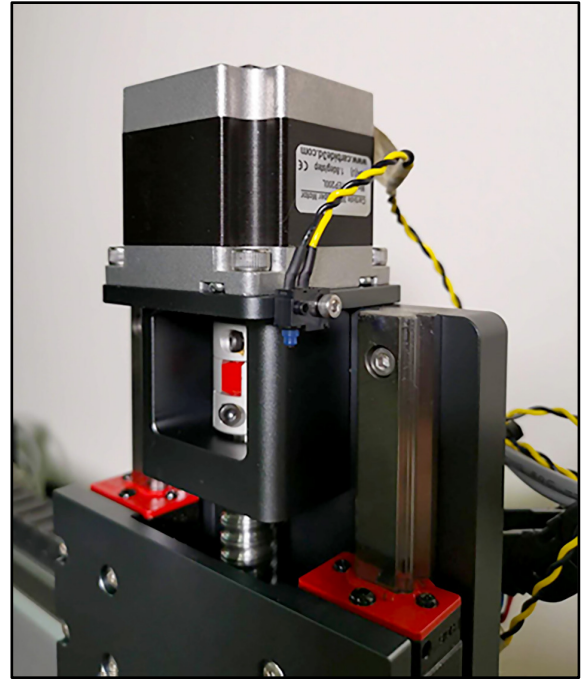

Figure 19
1. Fit your existing z-axis homing switch directly to the outside edge of the Z-motor mounting plate using your existing hardware, the M3 screw, washer, and lock nut. See **Figure 19**.